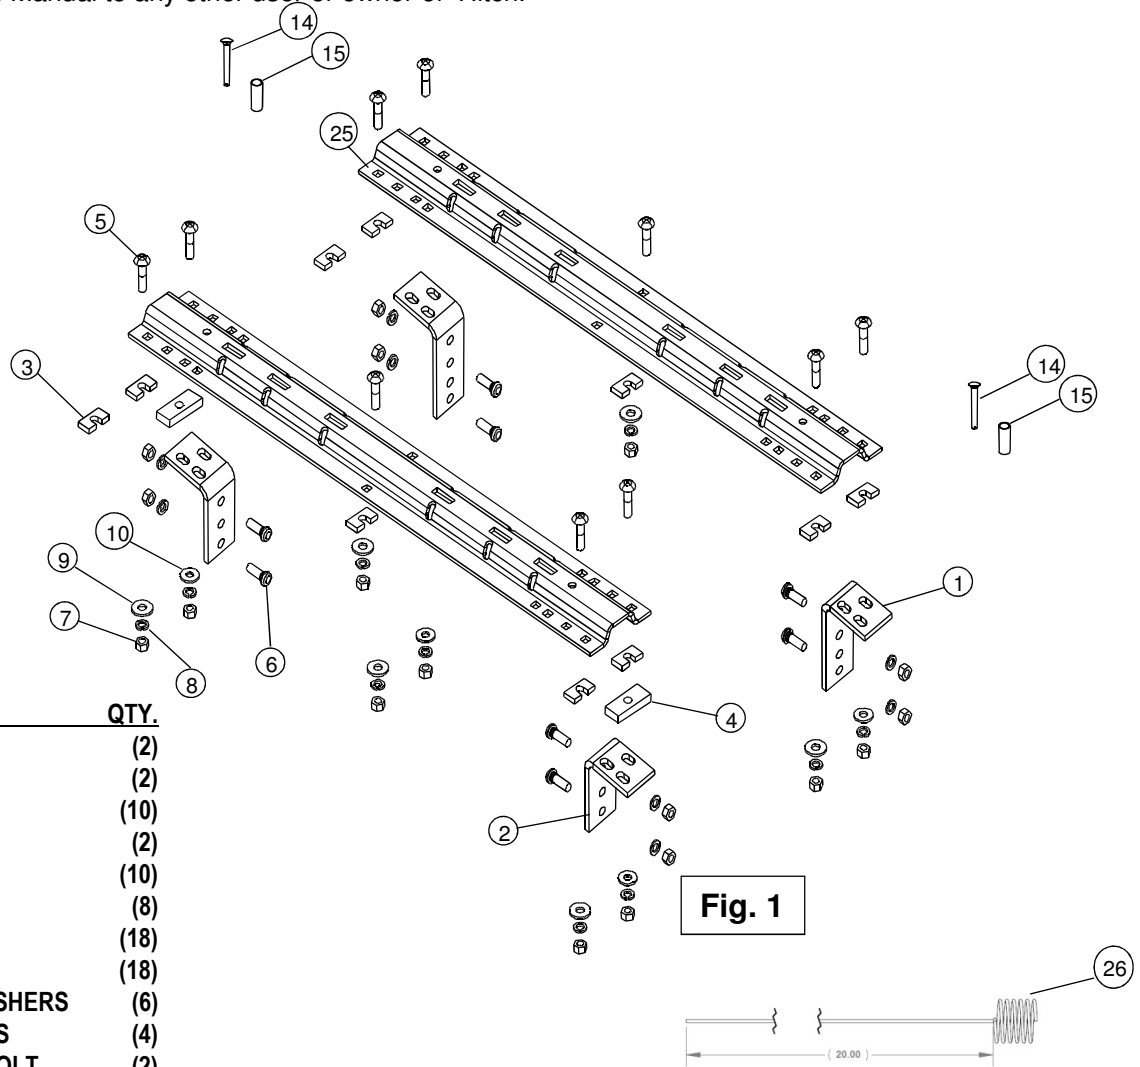

Fig. 1
- The following instructions should be used to mount the fifth wheel. Care and attention to detail will ensure a quick quality installation. Check parts against parts list to become familiar with parts in kit. (See Fig. 1)